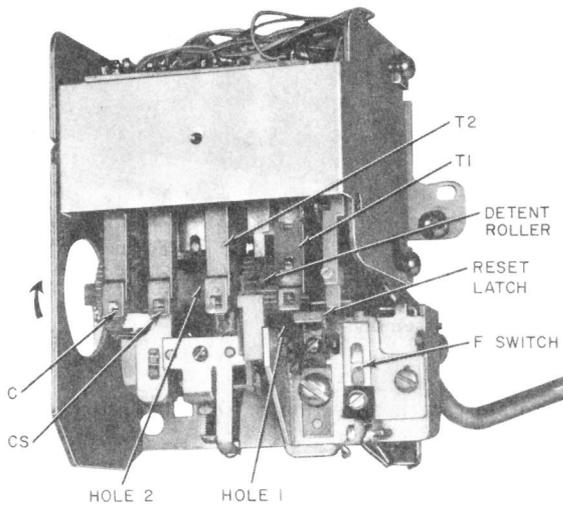

Fig. 10—Checking Totalizer Rate (Typical)
Use extreme care when checking initial rate or resetting totalizer. Avoid damaging pawl and spring pile-ups. Do not attempt to turn totalizer cam shaft in direction opposite to that shown in Fig. 10.
- (1) Remove chute-totalizer per 3.12.
- (2) Loosen retaining screw and remove transparent dust cover.
- (3) Rotate shaft in the proper direction (Fig. 10) until detent roller on detent wheel is positioned between the two black marks. This occurs at the same time T2 rests in depression in shaft. This position is called **home** position.
- (4) Release the reset latch by momentarily depressing it away from T1.
- (5) Slowly rotate shaft in proper direction, and count the steps until T1 springs operate (indicated by forward movement of reset latch).
- (6) Each step rotated from **home position** represents a 5-cent rate as shown in Table G.
- (1) Rotate shaft in proper direction (Fig. 10) until it is in home position as described in 3.14(3).